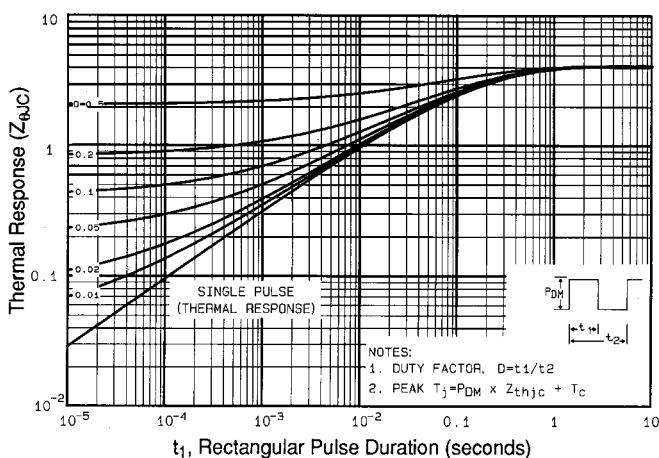

Fig 11. Maximum Effective Transient Thermal Impedance, Junction-to-Case
① Repetitive rating; pulse width limited by max. junction temperature (See Figure 11)
③ $I_{SD}\leq 9.2\text{A}$, $dI/dt\leq 110\text{A}/\mu\text{s}$, $V_{DD}\leq V_{(\text{BR})\text{DSS}}$, $T_J\leq 175^\circ\text{C}$ ⑤ $t=60\text{s}$, $f=60\text{Hz}$ ② $V_{DD}=25\text{V}$, starting $T_J=25^\circ\text{C}$, $L=4.9\text{mH}$